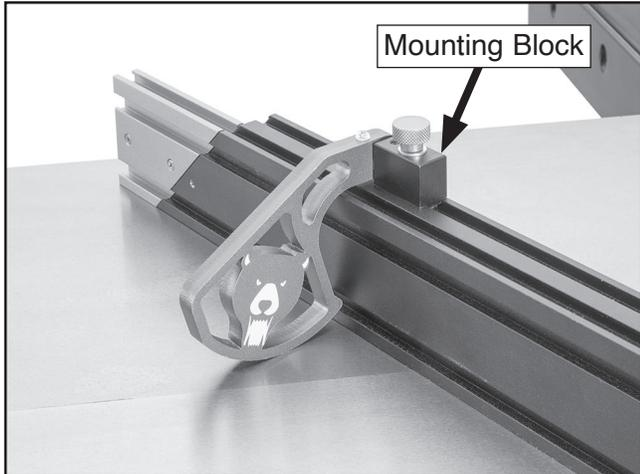

Figure 17. Flip stop positioned on opposite side of mounting block.
2. Turn flip stop around, secure flip stop to mounting block with flat washers and cap screw, then tighten set screw (see **Figure 17**).